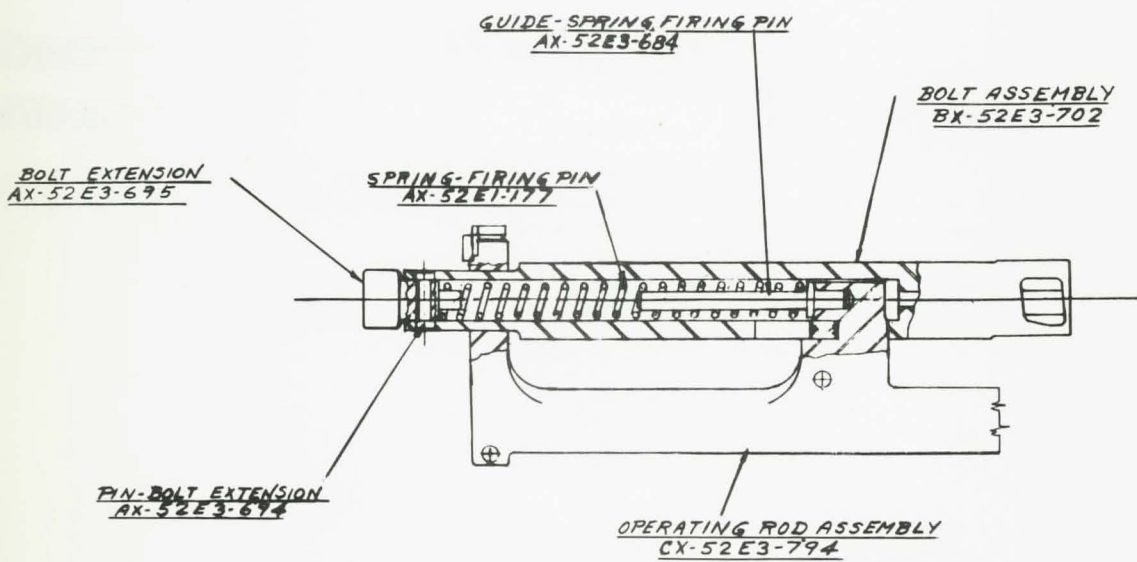
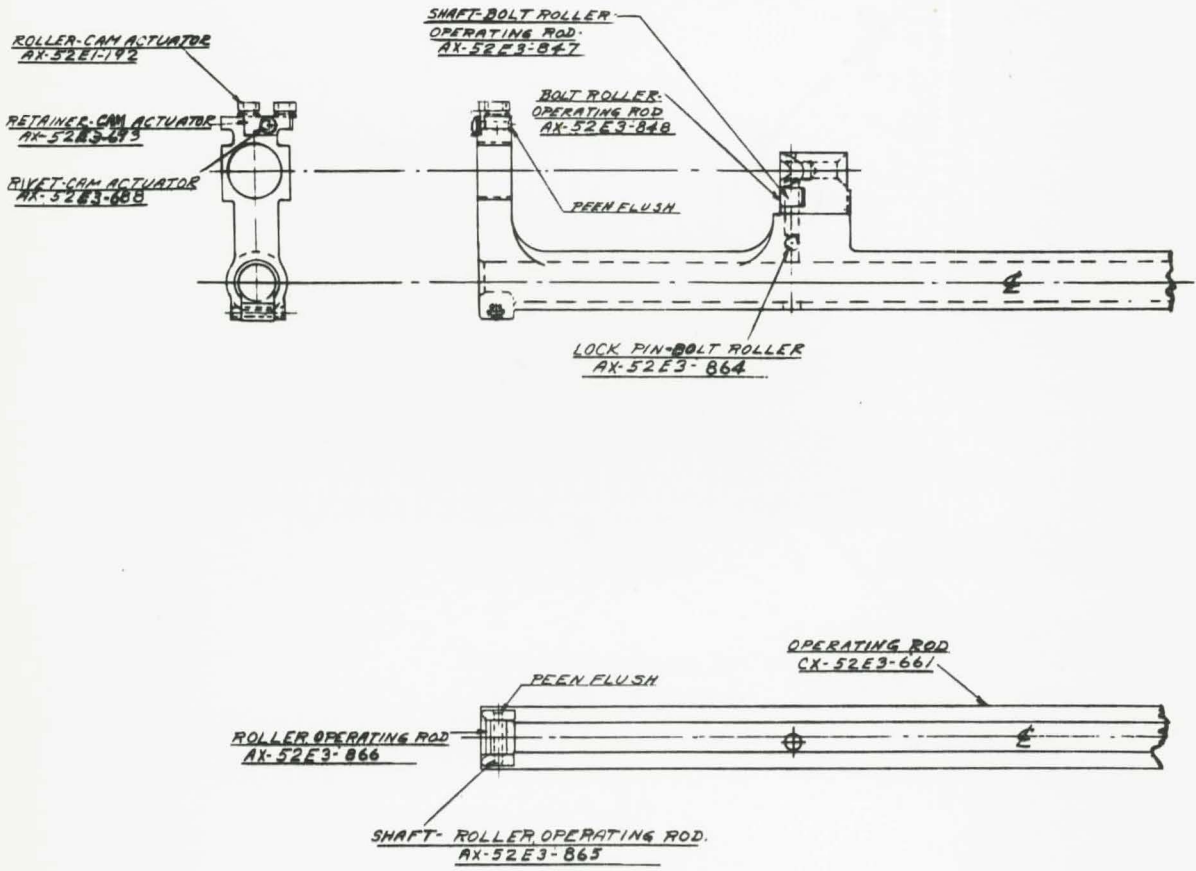

FIG 5 - OPERATING ROD AND BOLT ASSEMBLY
FIG. 6 - OPERATING ROD ASSEMBLY
- a. Grip, operating rod and bolt assembly in one hand so that bolt extension can be placed against some stationary object and depressed. With bolt extension depressed, then with the nose of a cartridge, held in other hand, push bolt extension pin out of hole as far as cartridge will go, then pull pin free of bolt. Do not release pressure until taking hold of bolt extension with free hand and ease bolt extension out of bolt being careful not to allow extension and firing pin spring to fly free. See Fig. 5, Page 14.
- a. Operating rod assembly including rollers and operating rod extension, is considered a fixed assembly, and to be disassembled only to replace worn parts. See Fig. 6, Page 15.
- a. Insert bolt roller shaft through hole in bottom side of operating rod, and through bolt roller as far as it will go, then assemble bolt roller lock pin, in hole on side of operating rod projection, and peen both ends. See Fig. 6, Page 15.
- c. On upper rear operating rod projection assemble two (2) cam actuator rollers with retaining grooves down, then cam actuator retainer with retainers in grooves on rollers, then insert cam actuator rivet through holes in retainer and operating rod and peen flush on operating rod.
- a. Insert rear end of bolt assembly through hole on rear operating rod projection so that the cam track in bolt will drop over the other projection on the operating rod. Rotate bolt to rearmost position. See Fig. 5, Page 14.